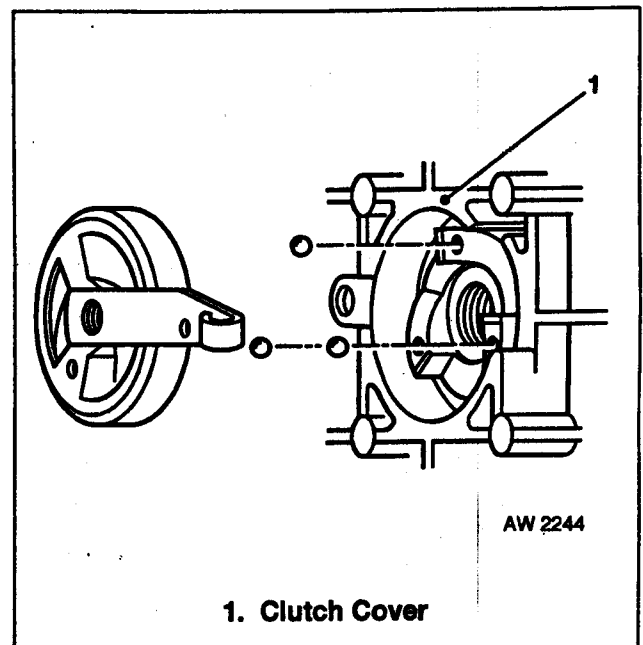

Fig 2.32 Clutch Release Mechanism Installation
- b. At assembly, clean the three holes with compressed air. Drop a small amount of oil into the three holes and install the three 6mm bearing balls (Fig 2.32 refers).